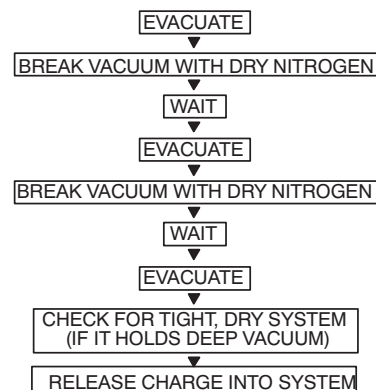

Fig. 23 — Triple Evacuation Method
The triple evacuation method should be used when vacuum pump is not capable of pumping down to 500 microns and system does not contain any liquid water. Refer to Fig. 23 and proceed as follows:
5. Repeat this procedure as indicated in Fig. 23. The system should now be free of any contaminants and water vapor.